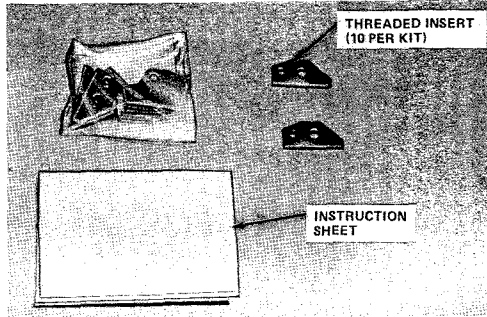

Fig. 11—Kit of Parts D-181226
- (3) Kit of Parts D-181226 (Fig. 11) consists of 10 threaded inserts for cover half.